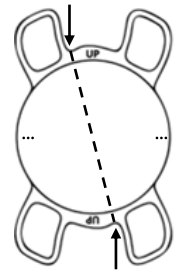

Figure 2: Front view of the lens showing the notches in correct position and the axis markers at 180°
- During implantation, the correct anterior/posterior alignment must be observed. The IOL is placed correctly, if the connecting line between the two opposite notches is located on the upper left and lower right and if the text "UP" is readable in an upright position (Figure 2).
- For correction of corneal astigmatism, the axis marker of the IOL (meridian with lowest refractive power, r_1) must be rotated to the steep corneal axis (Figure 2).